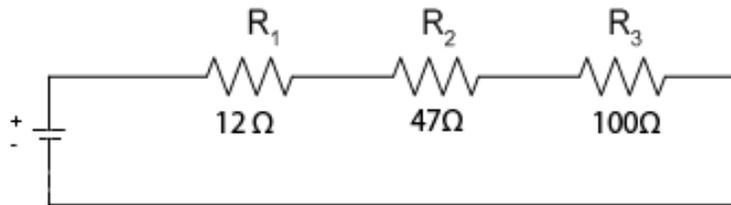

Figure 3.12: Series-Connected Resistors in a Circuit
3. Consider the string of series-connected resistors in Figure 3.12. Determine the Equivalent Resistance of this string of resistors. Record the value R_{eq} .
4. Using the protoboard, connect the string of resistors into the circuit, as shown in Figure 3.12. Plug in the wall wart.
1. Write the KVL equation for the circuit in Figure 3.12 and see if the equality holds. Write down all the steps and identify as to which resistor each term in the equation corresponds to. Circle or mark the final solutions.